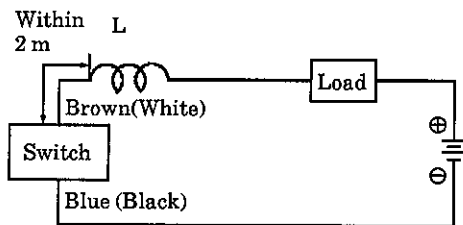
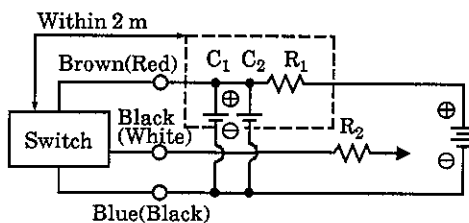

Fig. 9 ● Choke coil L
Fig. 11
- Install some protective circuit as illustrated in Fig. 9 or 10 (in case of model T2(Y)) and Fig 11 (in case of model T3(Y))